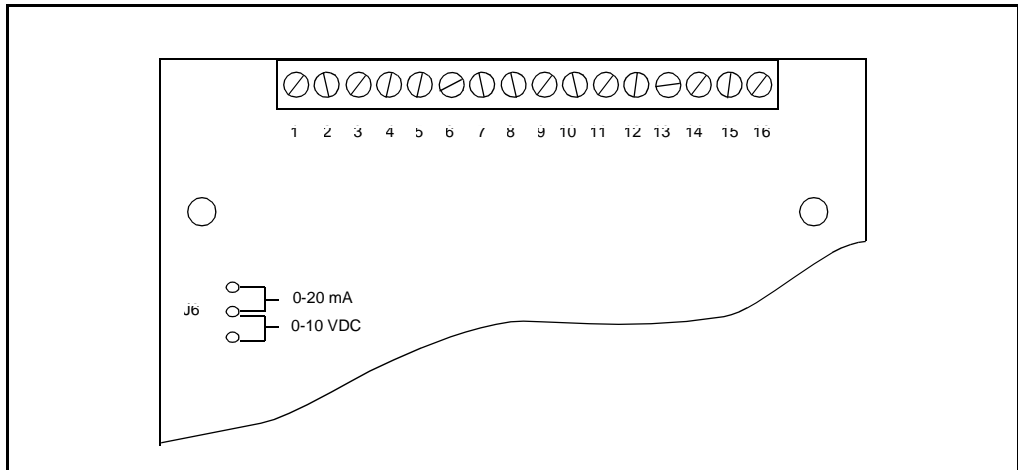

Figure 4.5 – Jumper J6 Settings for the Analog Input Speed Reference
- Step 5. Move the jumper to the desired setting as shown in figure 4.5.